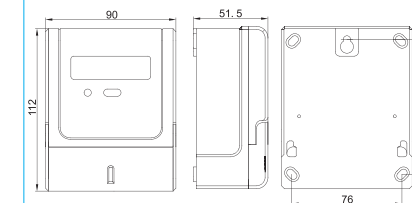

Fig. 4 Outline and installation dimensions diagram
7.6 The outline and installation dimensions are shown in Fig. 4.